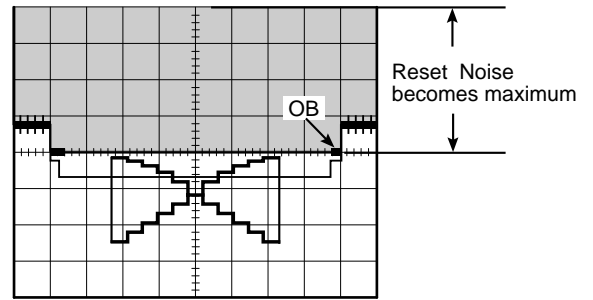

Fig. 5-1
- Adjust VR1 so that the Reset Noise becomes maximum as shown in Fig. 5-1.